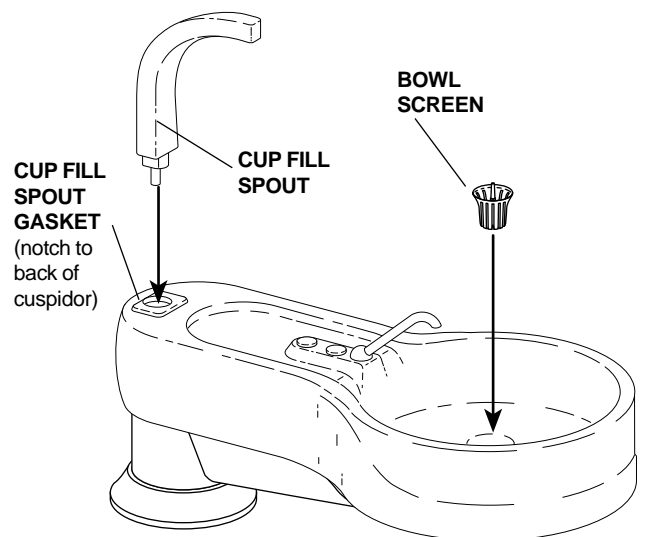

FIGURE 44
1. Install the cup fill spout, cup fill spout gasket, and bowl screen on the cuspidor as shown in Figure 44.